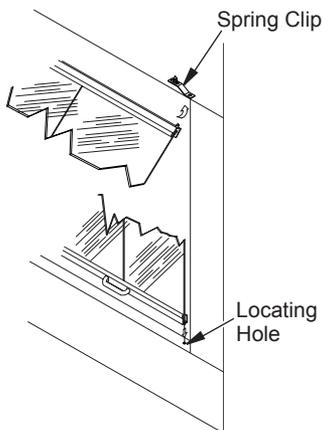

Figure 14 - Installing Fixed Glass Doors
1. Hold glass door firmly at both handles and insert top pins into clips located below upper facial edge of firebox opening. Make sure top pins snap securely into holes on spring clips (see Figure 14).
2. Push up on glass against tension of spring clips. Swing lower door into face until lower pins clear bottom rail and set into locating holes on each end (see Figure 14).
2. Remove 2 Phillips screws holding control cover to control panel inside firebox (see Figure 14, page 9).